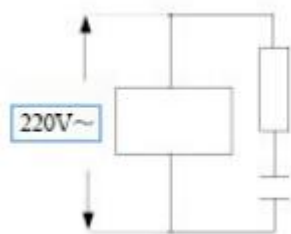
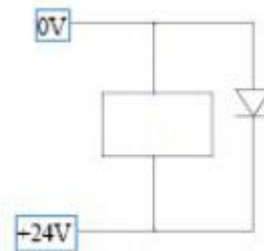
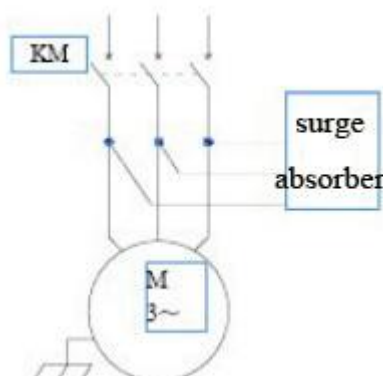

Fig. 1-3
Fig. 1-4
Fig. 1-5
3. To inhibit interference: connect parallel RC circuit at both ends of AC winding (Fig. 1-3), RC circuit should approach to inductive loading as close as possible; reversely connect parallel freewheeling diode at both ends of DC winding (Fig. 1-4); connect parallel surge absorber at the ends of AC motor winding (Fig. 1-5);